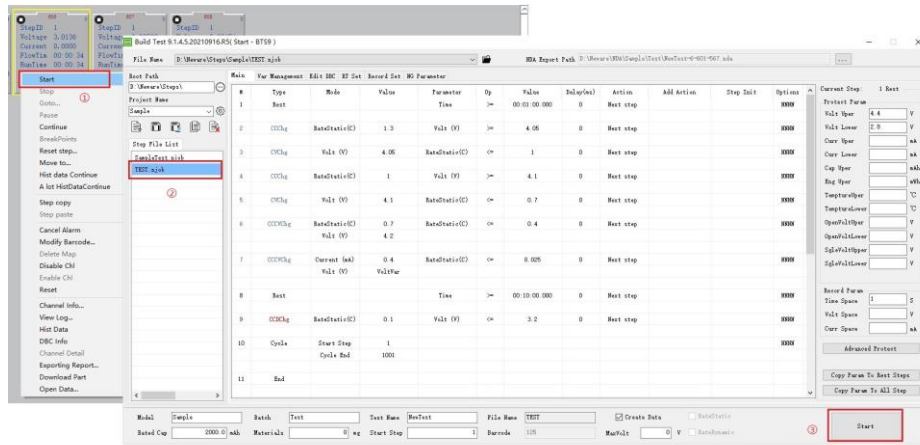

Figure 8-26 Start
1.) Right-click on the channel and click **Start**. In the step editor, select TEST.njob, and click **Start**, see Figure 8-26.